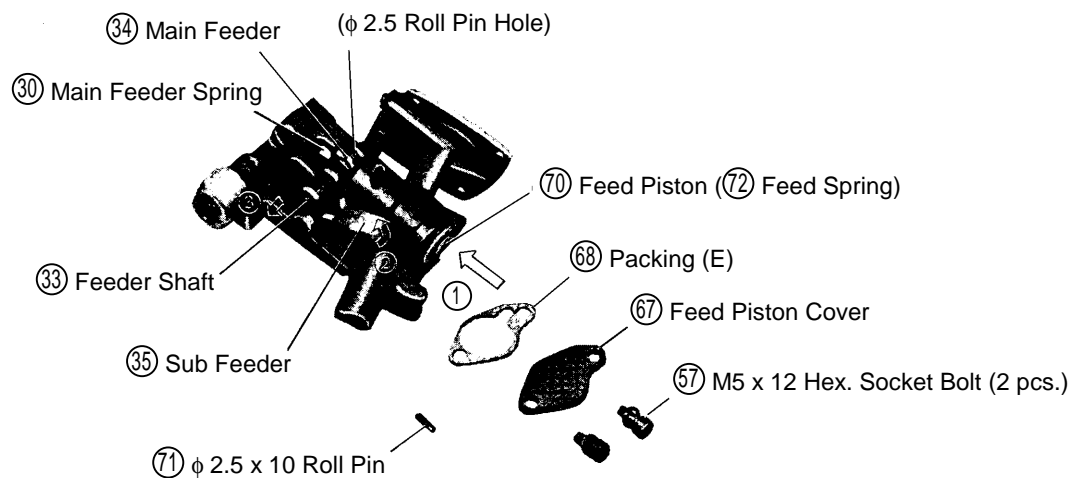

Fig. 20 Feed Piston Disassembly
- Take out the ϕ 2.5 x 10 Roll Pin from the Feed Piston (70), loosen the two M5 x 12 Hexagon Socket Hd. Bolts (57), and remove the Feed Piston Cover (67) and Packing (E) (68). (see Fig. 20)
- Pressing the Feed Piston (70) with a finger (as indicated by arrow mark (1) in Fig. 20), turn the Feeder (35) 1/4 turn (arrow mark (2)), and pull out the Feeder Shaft (33) (arrow mark (3)). The Feed Piston (70), Feed Spring (72), Main Feeder (34), Main Feeder Spring (30), and Sub Feeder (35) can then be removed. (see Fig. 20)